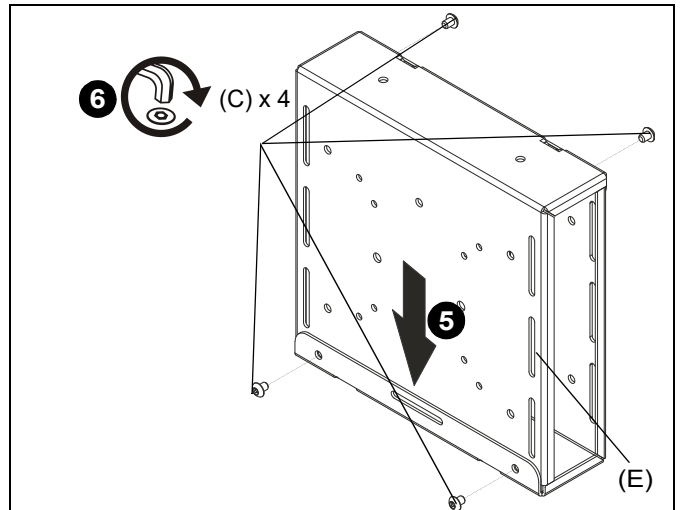

Figure 9
5. Place second thin client bracket (E) on top of first thin client bracket (E), lining up mounting holes. (See Figure 9)
6. Use four #10-24 x 1/4" security screws (C) to secure two brackets (E) together. (See Figure 9)